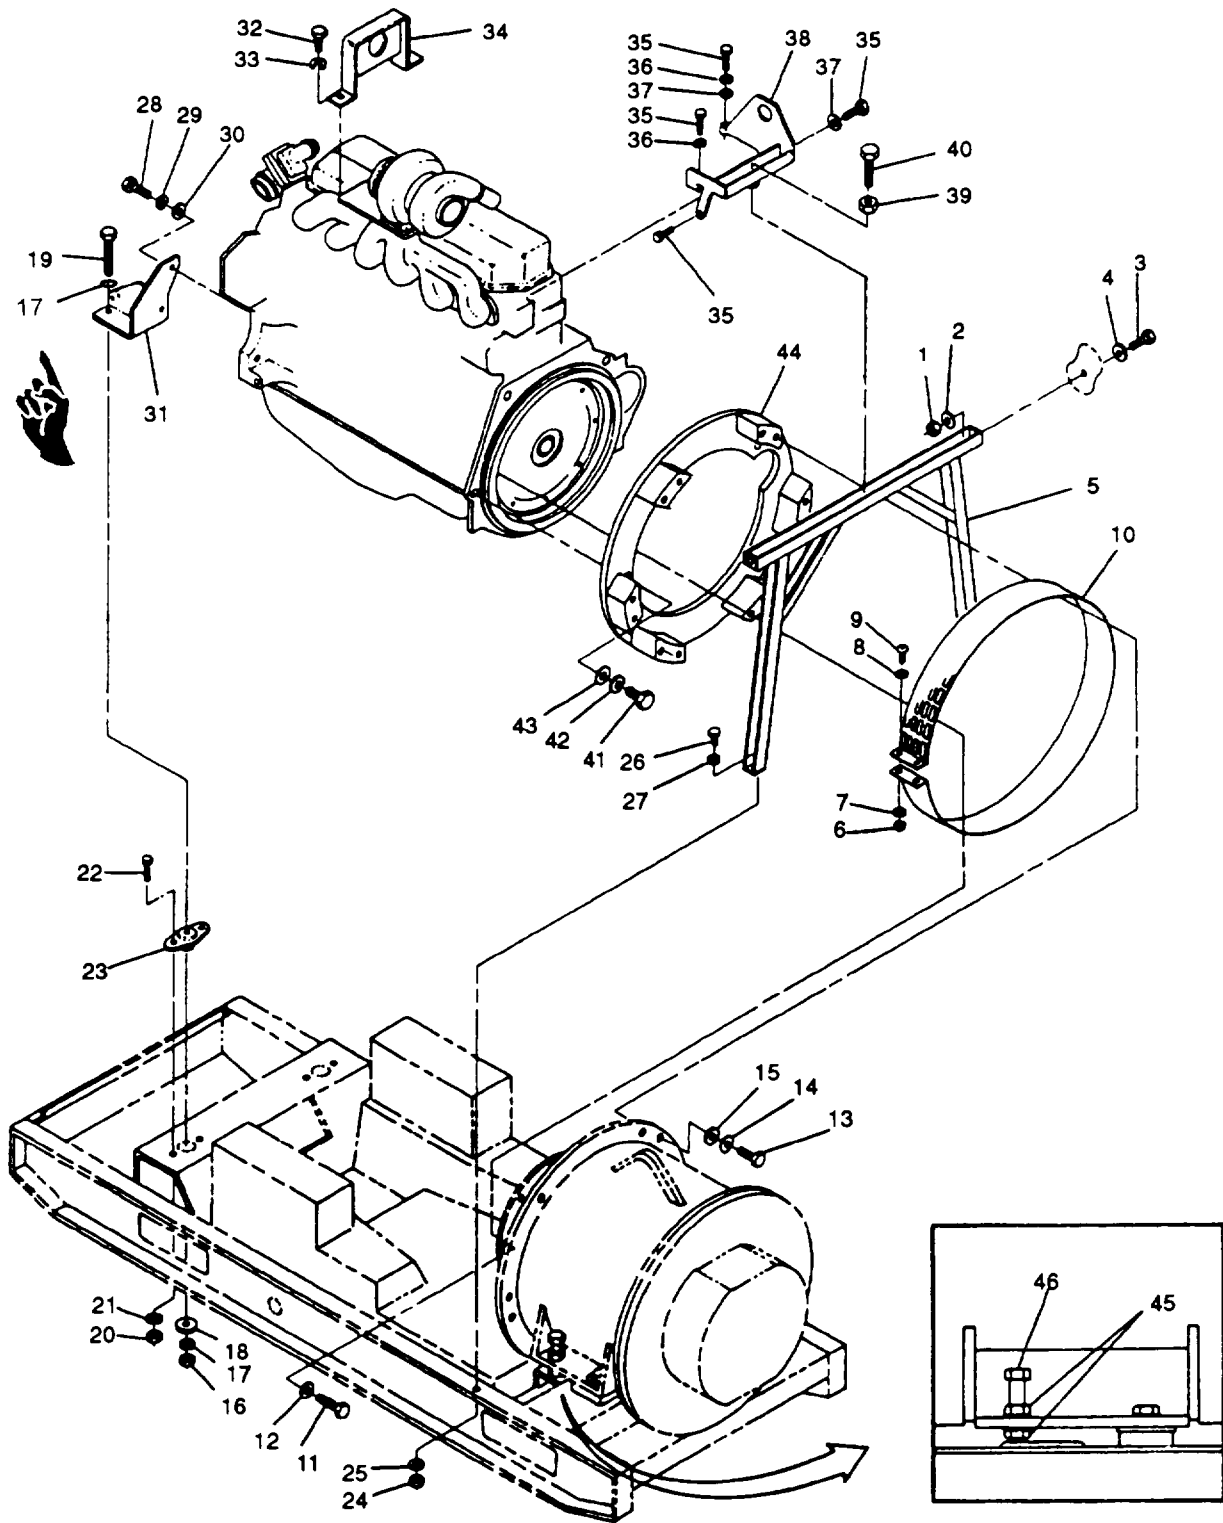

FIGURE 3-14. Engine Assembly Removal
- ae. Remove nuts (8), lockwashers (6) and (9), washers (7) and (11), and bolts (5) and (10) securing lower left side panel (12) to front housing and skid base.
- af. Remove nuts (1, FIGURE 3-14), lockwashers (2), bolts (3), and washers (4) securing frame (5) to rear housing side panels. With aid of an assistant, remove left rear side panel (4, FIGURE 3-8) and lower left side panel (12) as an assembly.
- au. Loosen nuts (45, FIGURE 3-14), turn bolts (46) to contact skid base and tighten nuts (45).
- av. Remove nuts (6), lockwashers (7), screws (8), washers (9), and screen/cover (10) from generator case.
- ax. Remove bolts (11) and washers (12) securing generator drive disc to engine flywheel.
- bb. Remove nuts (16, FIGURE 3-14), washers (17), snubbing washers (18), and bolts (19) securing mount brackets (31 ) to skid base.
- bc. Remove nuts (1, FIGURE %16), lockwashers (2), bolts (3), shim(s) (4), and radiator mounting bracket (5) from engine mount brackets (6).
- bd. With aid of an assistant, slowly lift engine assembly from skid base, ensuring that engine flywheel housing adapter (44, FIGURE 3-14) separates smoothly from generator without binding. Remove engine from generator set housing and place on engine stand.
- be. Remove nuts (20), lockwashers (21), bolts (22), and shock mounts (23) from skid base.
- bf. Remove nuts (24), lockwashers (25), bolts (26), washers (27), and support frame (5) from skid base.
- bg. Remove bolts (28), lockwashers (29), washers (30), and mount brackets (31) from engine block.
- bh. Remove bolts (32), lockwashers (33), and front engine lifting bracket (34) from engine assembly.
- bi. Remove bolts (35), lockwashers (36), washers (37), and rear engine lifting bracket (38) from engine assembly.
- bj. Remove nut (39) and support bolt (40) from rear engine lift ing bracket (38).
- bk. Remove bolts (41 ), lockwashers (42), washers (43), and flywheel housing adapter (44) from engine assembly.
- a. Install flywheel housing adapter (44, FIGURE 3-14) on engine assembly with bolts (41), lockwashers (42), and washers (43). Torque bolts (41 ) to 120 ft-lbs. (163 Nm).
- b. Install support bolt (40) and nut (39) in rear engine support bracket (38). Tighten nut (39) on bottom of bracket (38) so that support bolt (40) protrudes approximately 0.25 inch (6.35 mm) past nut (39).
- c. Install rear engine lifting bracket (38) on engine assembly with bolts (35), lockwashers (36), and washers (37).
- d. Install front engine lifting bracket (34) on engine assembly with bolts (32) and lockwashers (33).
- e. Install mount brackets (31) on engine block with bolts (28), lockwashers (29), and washers (30).
- f. Install shock mounts (23) on skid base with bolts (22), lockwashers (21), and nuts (20).
- g. Install support frame (5) on skid base with bolts (26), washers (27), lockwashers (25), and nuts (24).
- af. Secure left rear side panel (4) to skid base with bolts (1), lockwashers (2), and washers (3).
- ag. Secure lower left side panel (12) to front housing and skid base with bolts (5) and (10), washers (7) and (11), lockwashers (6) and (9), and nuts (8).
- ah. Secure frame (5, FIGURE 3-14) to rear housing side panels with bolts (3), washers (4), lockwashers (2), and nuts (1).